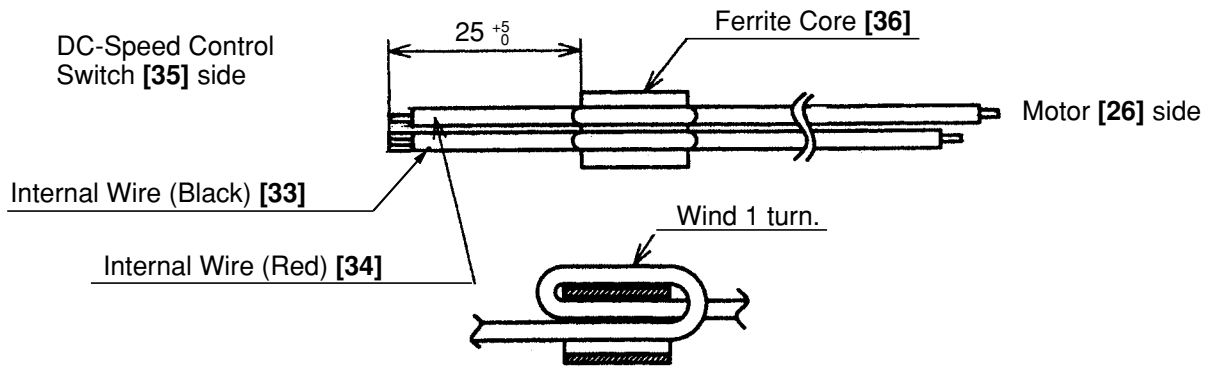

Fig. 5
(1) Reassembly of the power supply unit
- (a) Mount the Ferrite Core [36], Internal Wire (Black) [33] and Internal Wire (Red) [34] as shown in Fig. 5.